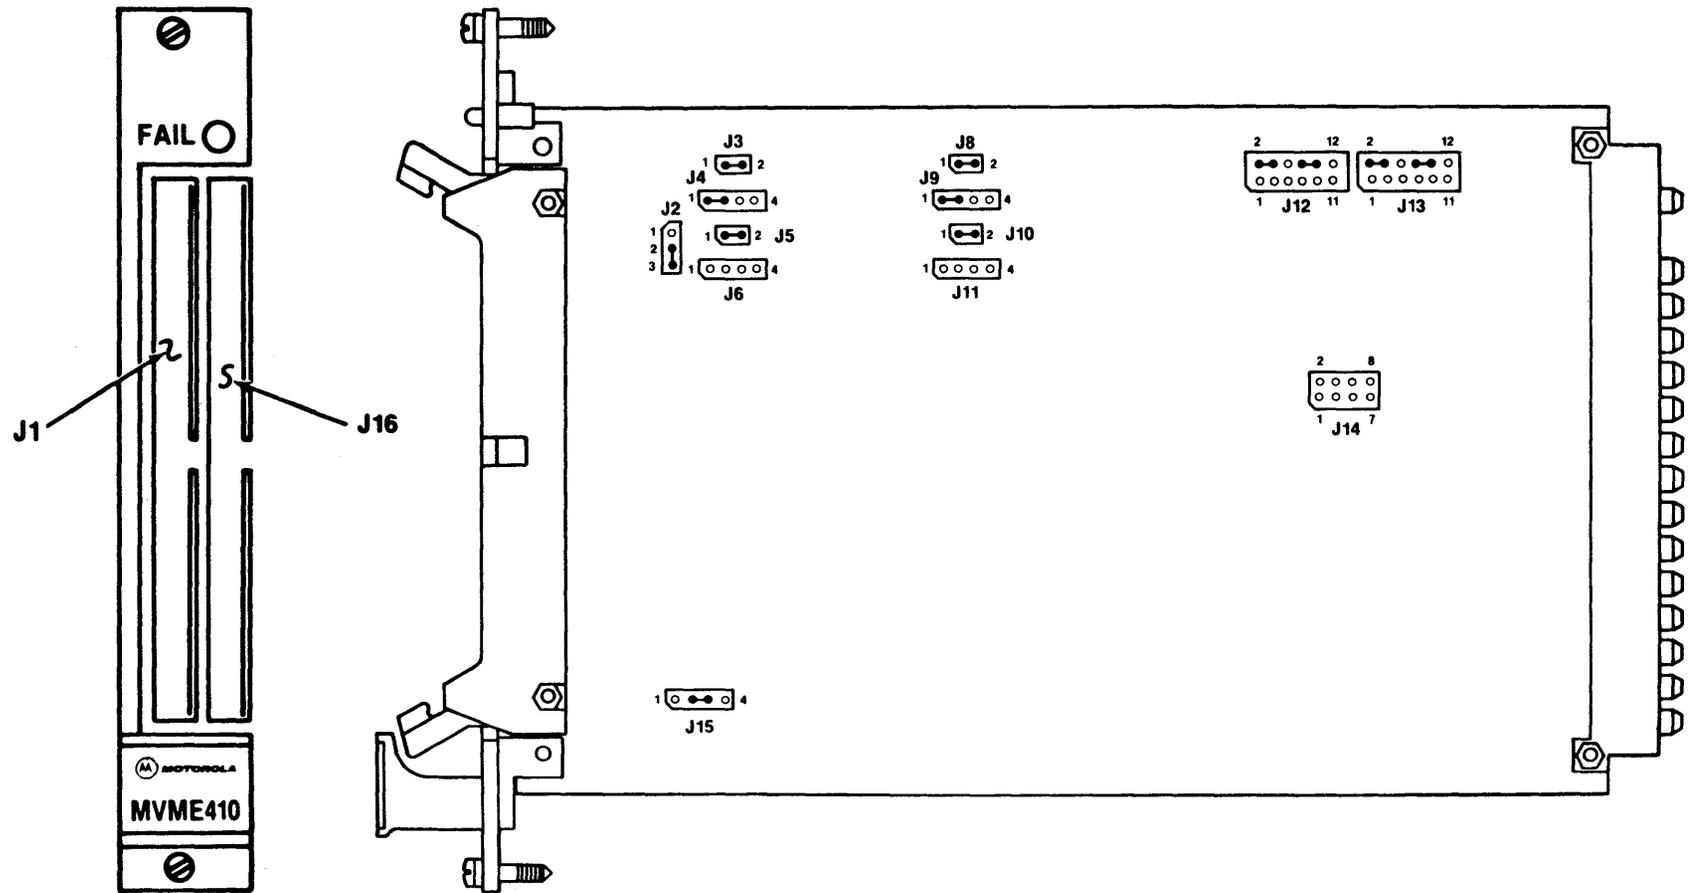

FIGURE 3-4. MVME410 Port 1 Printer Configuration
To connect the VME/10 to a Centronics-compatible printer, the MVME410 Dual Parallel Port Module jumper headers are prepared as listed in Table 3-2 and as shown in Figure 3-4. For specific details about the jumper header configurations, refer to the MVME410 Dual Parallel Port Module User's Manual, Motorola publication number MVME410.
- b. Refer to Table 3-2 and Figure 3-4 and configure the MVME410 I/Omodule jumper headers for port 1 printer operation and interrupt level 1.